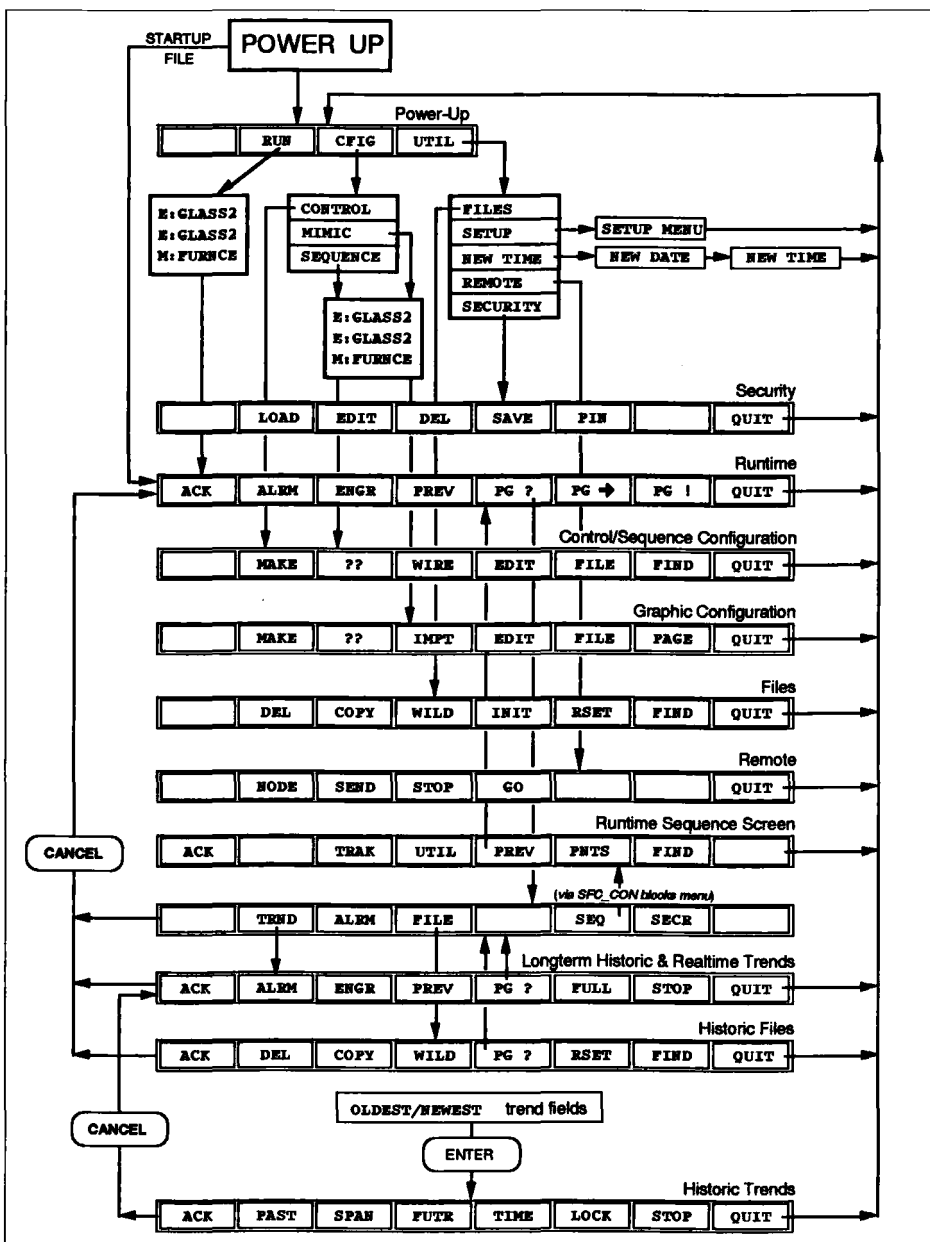
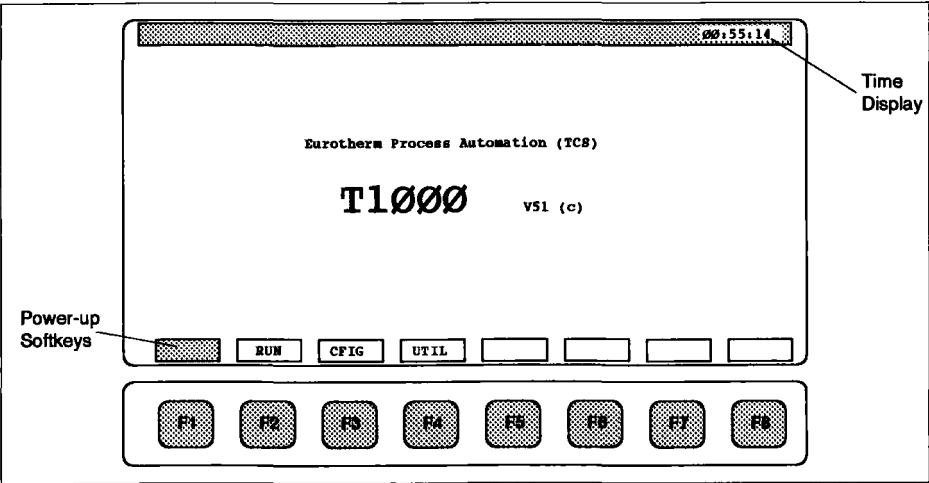

Figure 7.2 T1000 Sofkey Hierarchy Schematic
Figure 7.3 T1000 Power-Up Display
**Screen Displays.** Several screen displays are available depending on the T1000 option — Power-Up, Runtime, Historic Trends, and Utilities (all options); Control and Mimic configurators (not DISP option); Sequence Configurator (SEQU option only). Each display has its own set(s) of softkeys, and some of the softkeys access further displays with associated special softkeys. These displays and softkeys are described individually in their own sections below. Figure 7.2 shows schematically the overall T1000 softkey hierarchy.
The power-up display is shown in Figure 7.3. This is the screen display seen after a 'cold start' power-up if no control strategy has been specified to run via the SETUP utility. Otherwise, the runtime display for the specified strategy appears instead. The power-up display also appears on escape from any of the other available screen displays, as indicated in Figure 7.2.